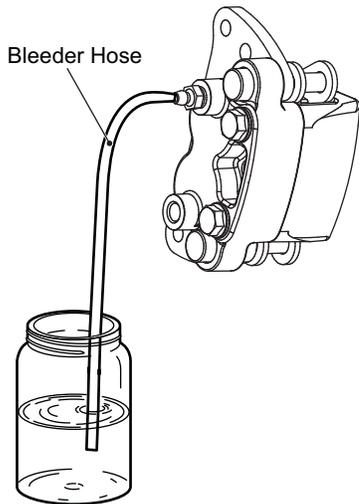

Fig. 6 Bleeder Valve
Use a clean cloth to clean the master cylinder reservoir and caliper bleeder valves (Ref. Fig. 6). Clean each fitting before opening to prevent contamination of the system.
1. Attach a bleeder hose to the bleeder screw. Put the other end of the hose in a glass container partially filled with brake fluid (Ref. Fig. 6).